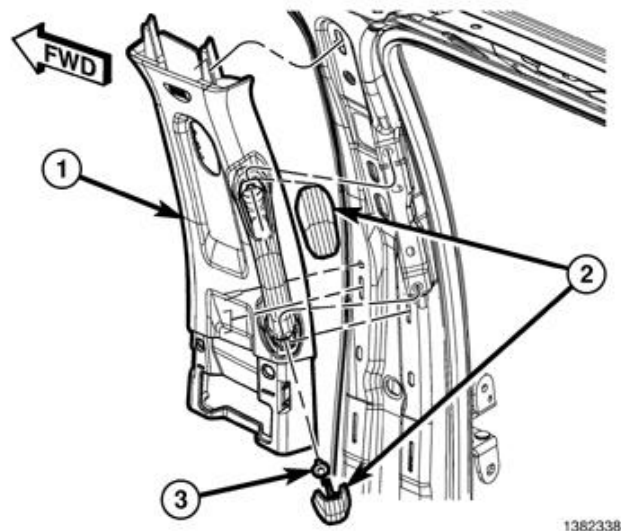

Figure 41 – B-Pillar Upper Trim Panel
9. On the B-pillar, use a small flat-bladed tool to carefully open the two fastener covers (2) located on the grab handle (Figure 41).
10. Remove the two bolts (3) that secure the grab handle to the B-pillar (Figure 41).
11. Using a trim stick C-4755 or equivalent, release the retaining clips that secure the B-pillar upper trim panel (1) then position the trim panel out of the way. It is not necessary to remove the seat belt from the trim panel (Figure 41).
47. Install the B-pillar upper trim panel (1) and engage the retaining clips fully (Figure 41).
48. Install the grab handle bolts (3) and tighten to 5 N·m (44 in. lbs.). Close the fastener covers (2) (Figure 41).